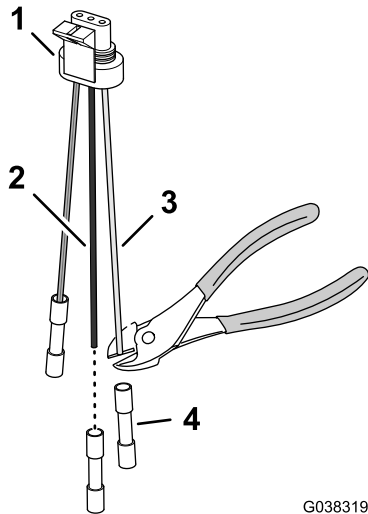

Figure 41
- 1. Cut off the butt-splice connectors for the pink wire and black wire of the 3-pin adapter (Figure 41).